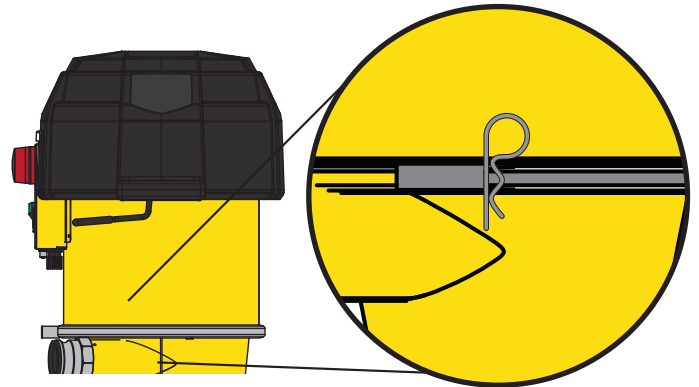

FIG. 10
Secure the Ring Clamp (F) using the Clamp's cotter pin [FIG. 10].